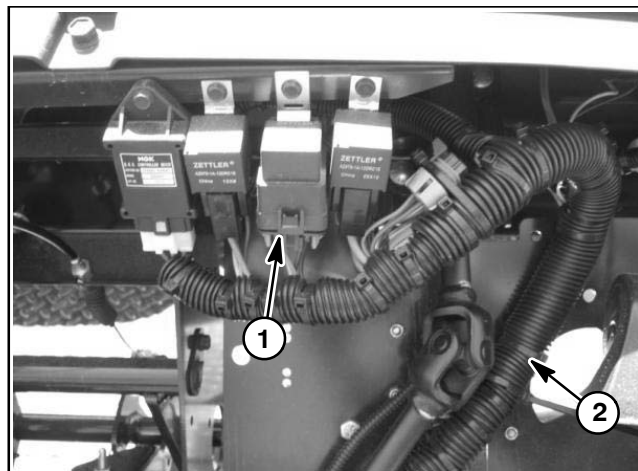

Figure 19
The Workman MDX-D start relay provides electrical current to the engine starter solenoid when energized. The relay is energized when the ignition switch is in the START position and the brake pedal is depressed (brake switch closed). The start relay is attached to the front of the dash bracket and can be accessed by raising the hood (Fig. 19). The vehicle wire harness is attached to the start relay with a five (5) wire connector. The relay can be identified by a tag on the wire harness.